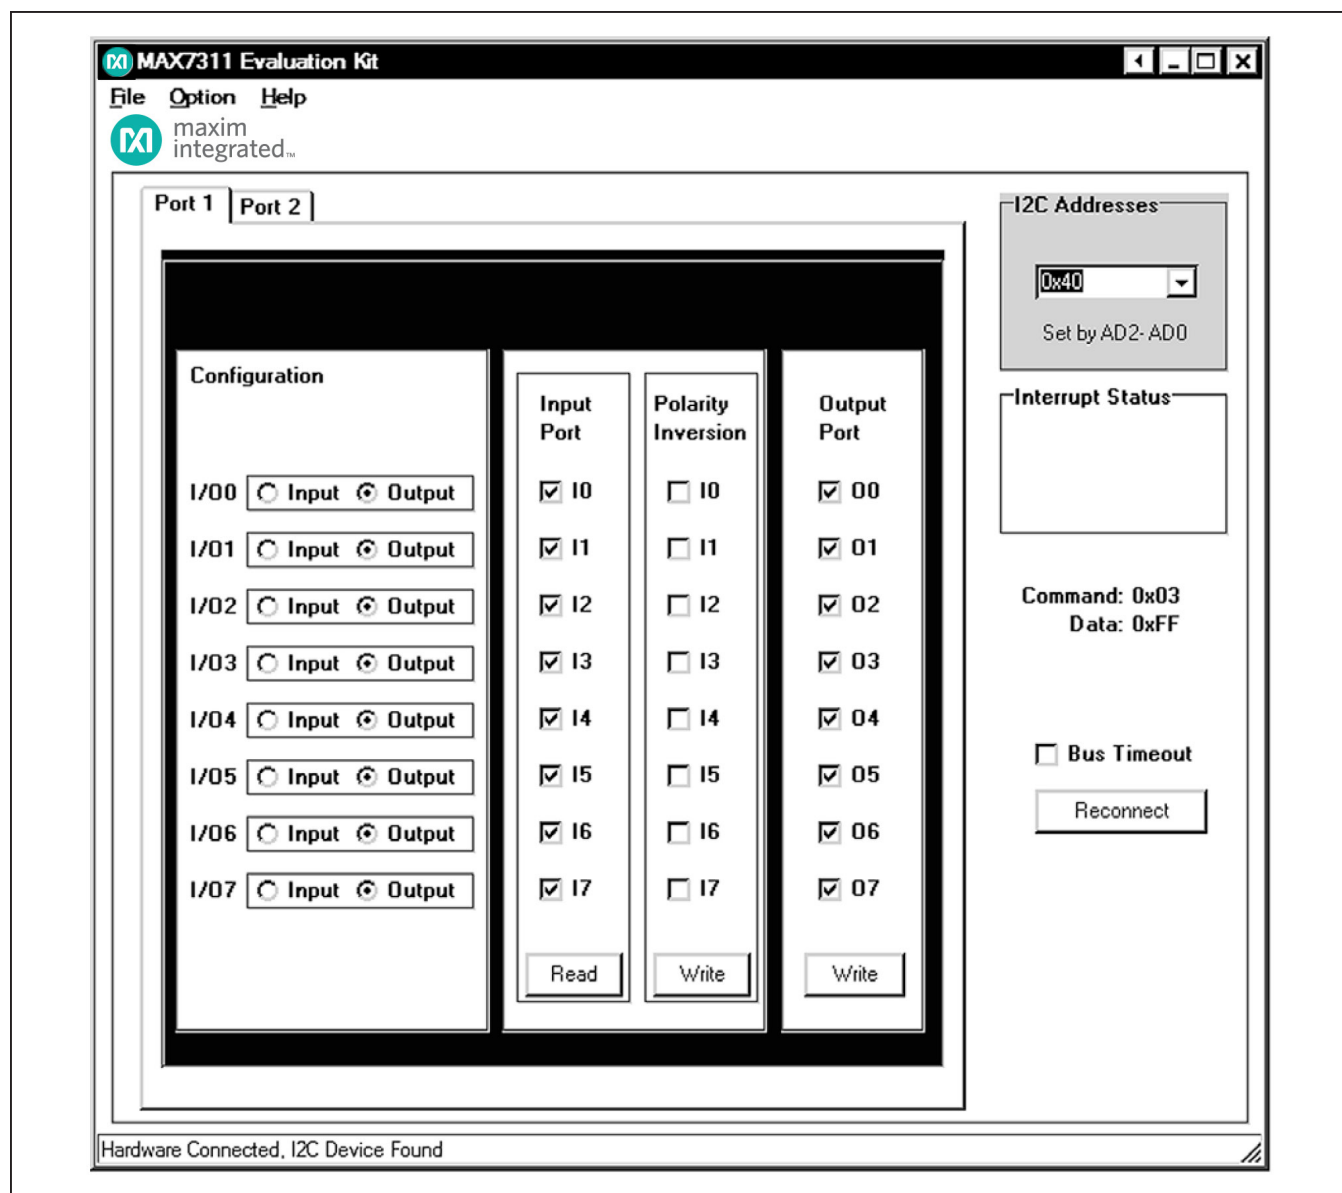

Figure 1. MAX7311 EV Kit Software Main Window (Port 1 Tab)
- 6) Start the MAX7311 EV kit software by opening its icon in the **Start | Programs** menu. The EV kit software main window appears, as shown in Figure 1.
To start the MAX7311 EV kit software, double-click on the MAX7311 EV kit icon that is created during installation. The GUI main window appears, as shown in Figure 1.
The **Port 1** tab sheet shown in Figure 1 controls all of the registers for **I/O0–I/O7** of the MAX7311. In the **Configuration** group box, the user can set the I/O port